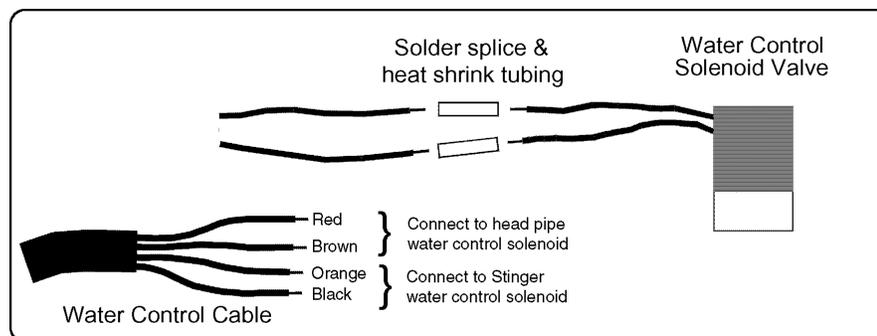

Figure 1
2. On water control cable from Ignition, remove 1.5" of outer covering. Strip 1/4" of insulation from ends of wires you intend to use (See Figure 1). If the stinger wire pair is not being used, tape each wire end and pull wires back along cable and tape in place for possible future use.